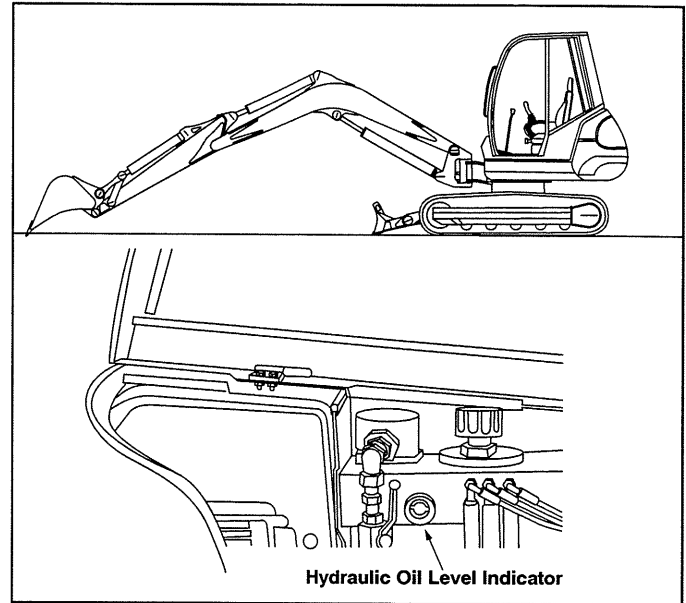

Figure 4-10. Hydraulic Oil Level Indicator
2. Fully extend the bucket and boom as shown (Figure 4-10). Lower bucket and dozer blade to the ground. Turn off the engine.
3. Raise the hydraulic valve cover to expose the hydraulic oil level indicator (Figure 4-10).
5. To expose the hydraulic oil cap, open the hydraulic valve cover. (Figure 4-10).
7. Add hydraulic oil until oil level is between red and black marks on indicator (Figure 4-10).
2. Fully extend the bucket and boom. Lower bucket and dozer blade to the ground (Figure 4-10). Turn off the engine.
3. To expose the hydraulic oil cap, open the hydraulic valve cover (Figure 4-10).